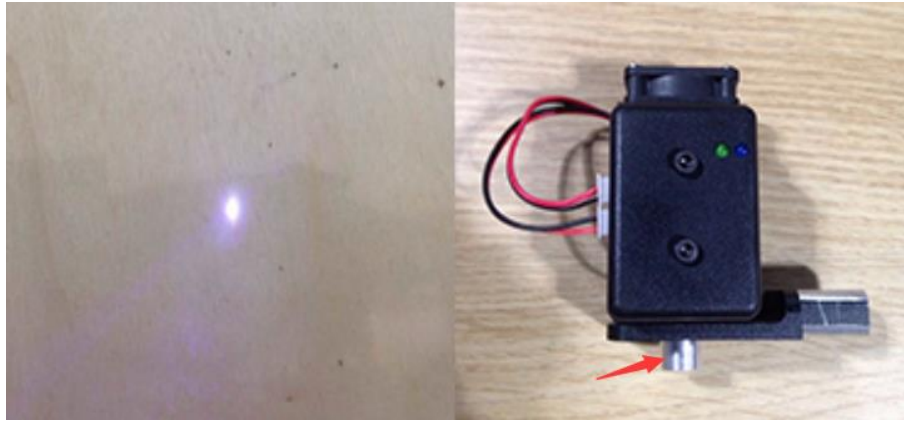

Figure 5.81 Adjust the laser focus
- If you cannot set the laser to be at its minimum focus, it's probably because the focal length is long. To shorten the focal length, slightly turn the sliver lens screw (as shown in Figure 5.81) on the bottom of the laser kit.